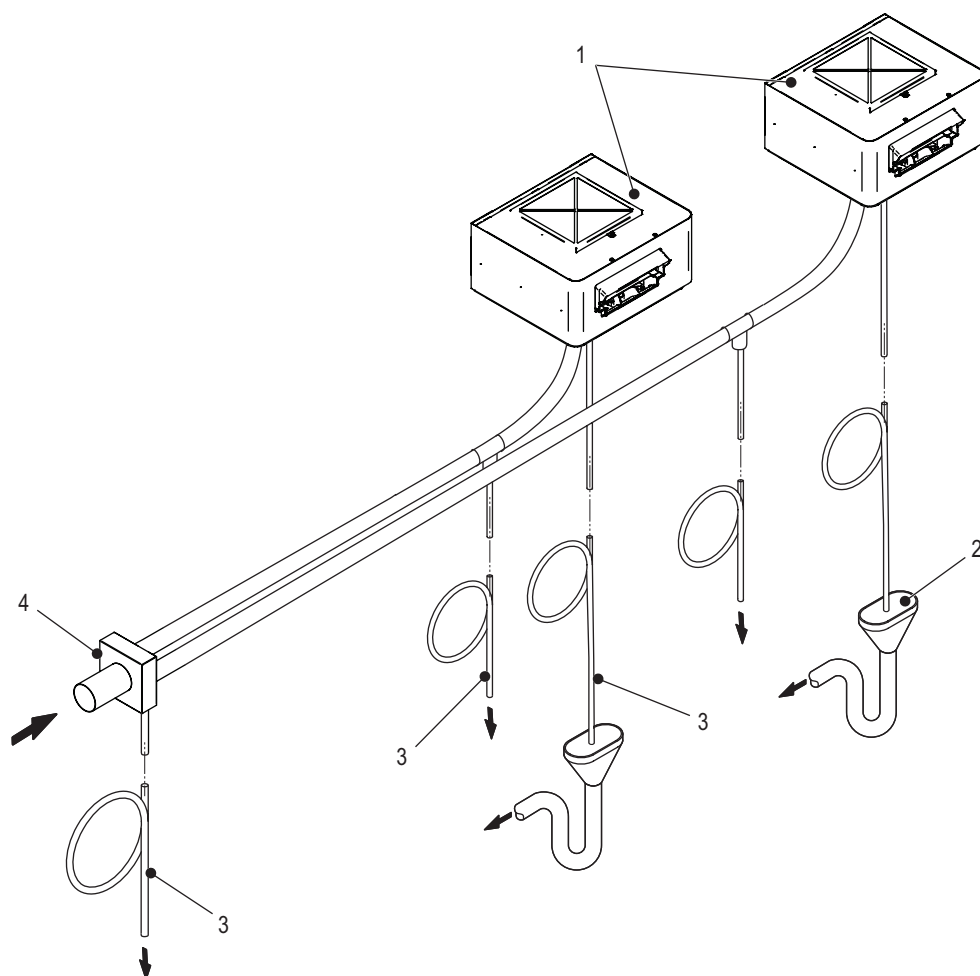

Figure 5: Typical Installation of Multiple Blower Packs with Condair GS Humidifier
In addition, multiple blower packs can also be used remotely with Condair GS 195/260 humidifiers with the aid of an adapter. Refer to Figure 5. Contact your Condair representative for additional details.
- For Condair GS humidifiers use an adapter to distribute the stream to more than one blower pack – refer to Figure 5 on page 17. For details of steam lines for Condair GS humidifiers contact your Condair representative.